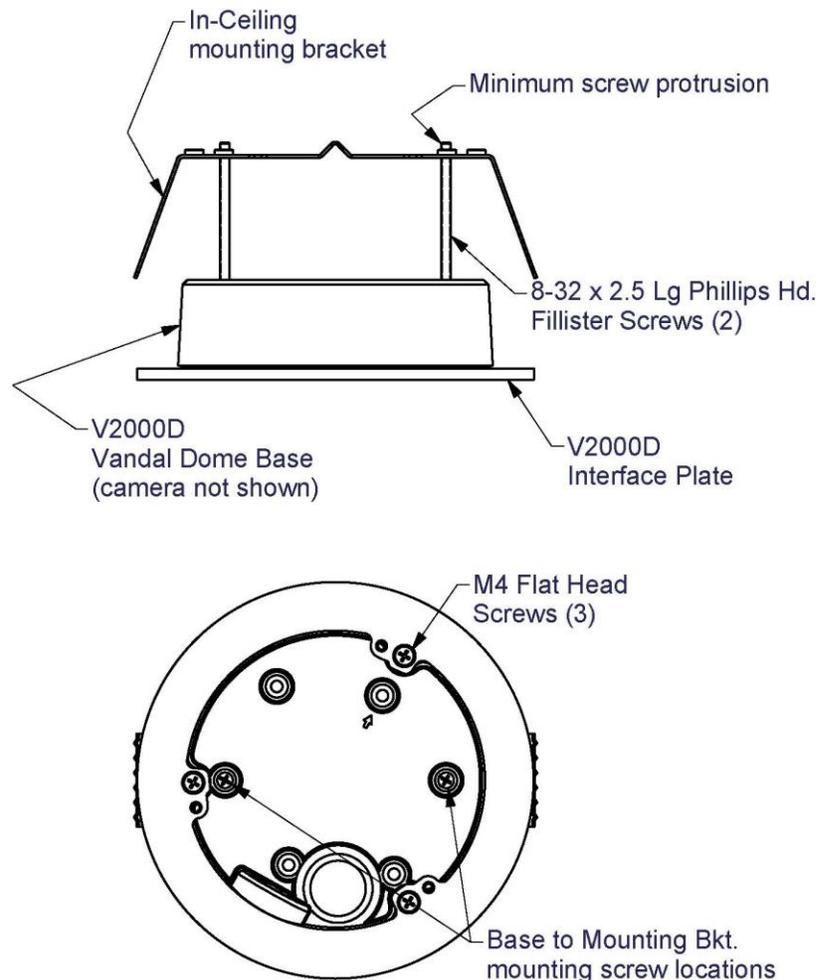

Figure 2
2. Remove the three (3) trim ring mounting screws from the lower dome and trim ring assembly and replace them with the three (3) M4x.7 captive trim ring mounting screws supplied. These are shorter screws that provide proper attachment to the interface plate. Failure to do so may damage trim ring threads during removal from interface plate.
3. Install the interface plate onto the base of the V2000D with the three (3) M4 flat head screws provided.
5. Secure the V2000D assembly with interface plate to the mounting bracket using two (2) of the six mounting holes in the V2000D base with the 8-32 fillister head screws provided. Attach the bracket to base in a way that only a short portion of the screws protrude through the bracket. Refer to Figure 2.